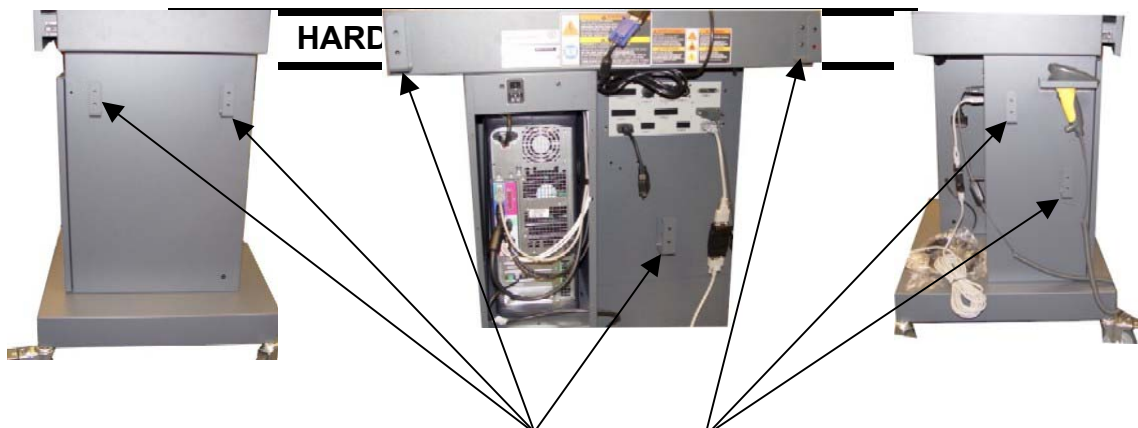

Figure 6, Bracket Mounting
64. Referring to Figure 6, mount the Storage Brackets using the screws provided.